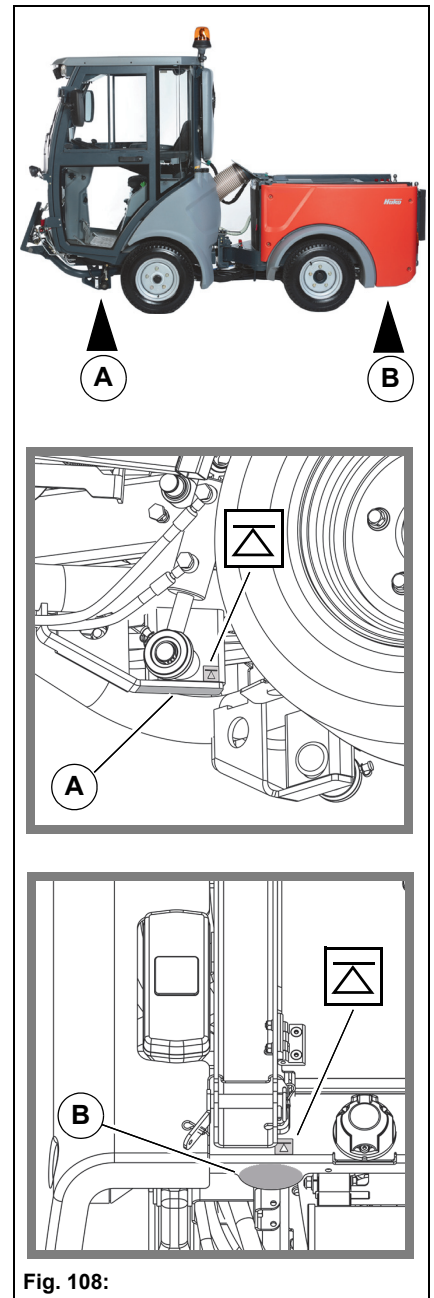

Fig. 108:
- Front wheel left/right: **Fig. 108-A**, see symbol
- Rear of vehicle left/right: **Fig. 108-B**, see symbol